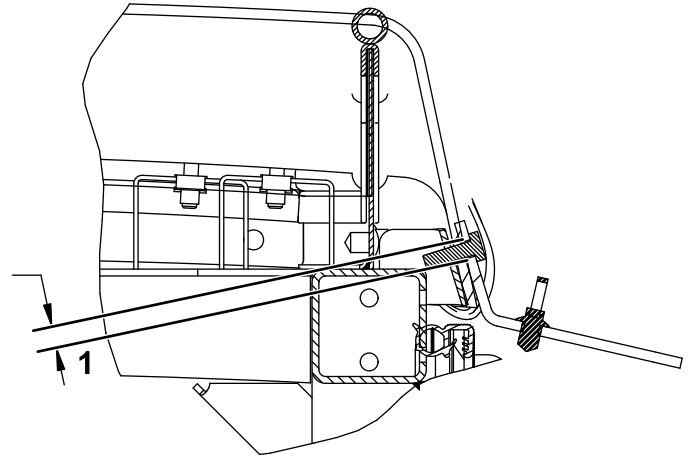

Figure 4
1. Drill a hole (3/8 inch) in the rear of the roof (Figure 4).